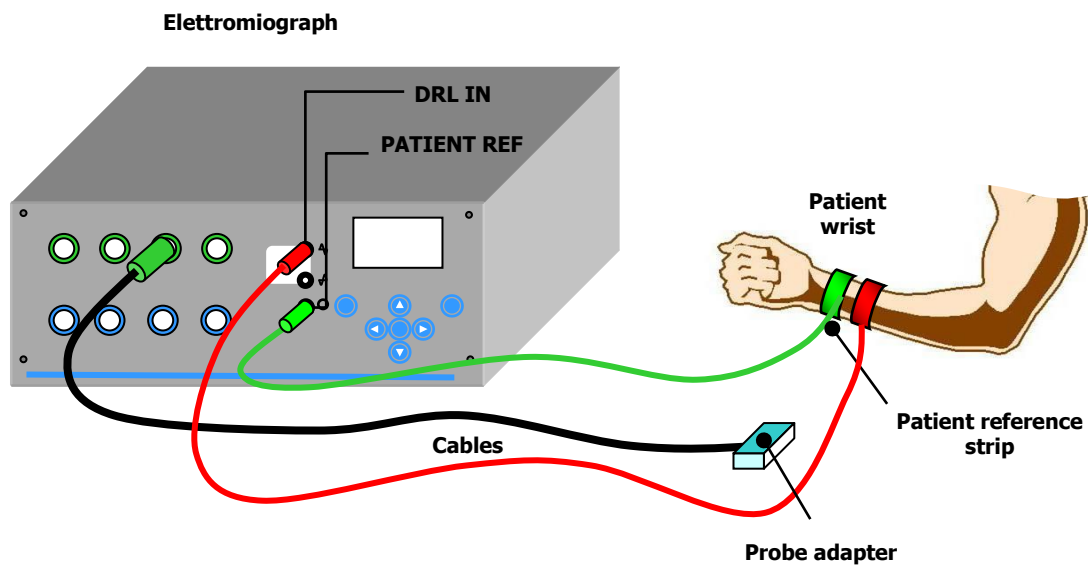

FIG. 8: Patient connection diagram for signal acquisitions in monopolar mode (Mode: Monopolar). Take care to avoid contact between strips
- If a monopolar mode of signal acquisition is planned (**Mode: Monopolar**), connect another strip to the **DRL IN** plug, using the enclosed cable. The strip has to be wet with water to ensure a good electric contact with the patient and has to be applied to a point without any myoelectric activity near the patient ground strip (e.g. the ankle or the wrist, FIG. 8). It is important to prevent the contact between the two strips to obtain a good signal.
- After verifying the good signal quality in differential mode, configure the electromyograph to work in monopolar mode (**Mode: Monopolar**) and, if not already done, connect the DRL IN reference strip (FIG. 8).